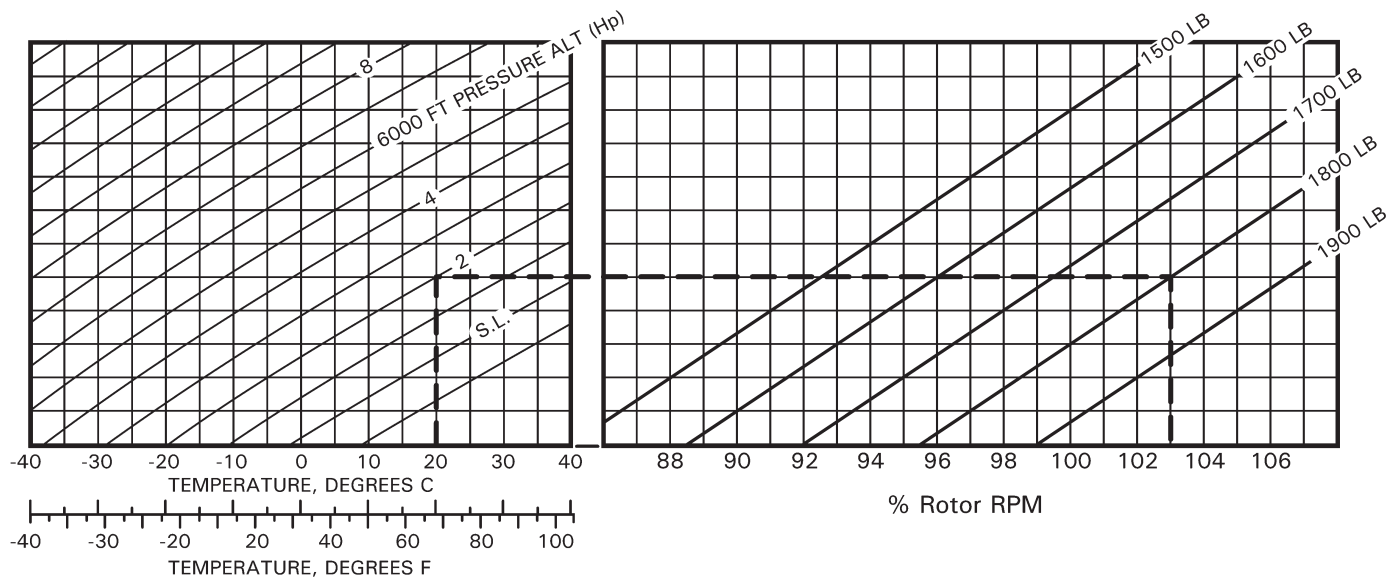

FIGURE 18-5 AUTOROTATION RPM ADJUSTMENT
4. Refer to Figure 18-5. To find Chart % RPM, perform the following: